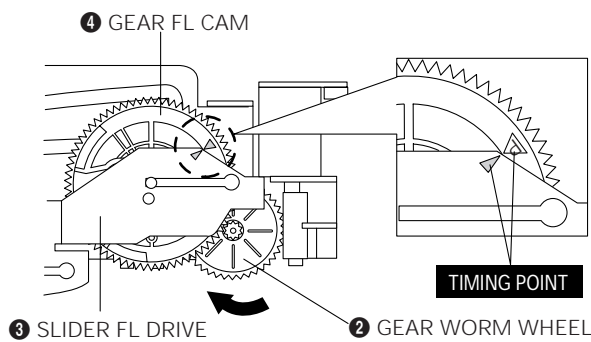

Fig. 4-5-13
3. Turn the gear worm wheel ❷ clockwise so that "Timing Point" of the slider FL drive ❸ and gear FL cam ❹ can be aligned (See Fig. 4-5-13)